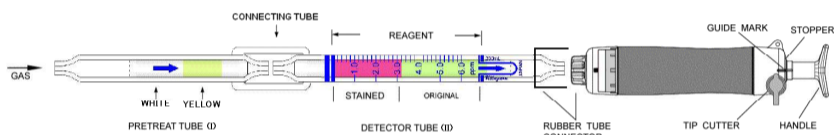

Fig.1
- ① Break both ends of the detector tube(II) and pretreat tube(I), and connect each end of the detector tube(II) and pretreat tube(I) with connecting tube as shown in Fig.1.
- ② Insert the detector tube(II) into the aspirating pump securely as shown in Fig.1 (Arrow mark shall point to the pump.)
- ③ Align the guide marks on the shaft and stopper of the aspirating pump.
- ④ Pull the pump handle at a full stroke until it locks and wait for 1.5 minutes or until the completion of sampling is confirmed with the flow indicator of the pump. (See descriptions about the flow indicator in the instruction manual of the pump.)
- ⑤ Turn the handle right or left by 1/4 (90°), push back the handle without removing the detector tube from the pump and then repeat the steps ③~④ once again.
- ⑥ On completion of sampling, read the scale at the maximum point of the stained layer.
- ⑦ When the concentrations are below the scale range, 4 pump strokes can be used to determine these lower concentrations.
- ⑧ When the concentrations are over the scale range, 1 pump stroke can be used to determine these higher concentrations.